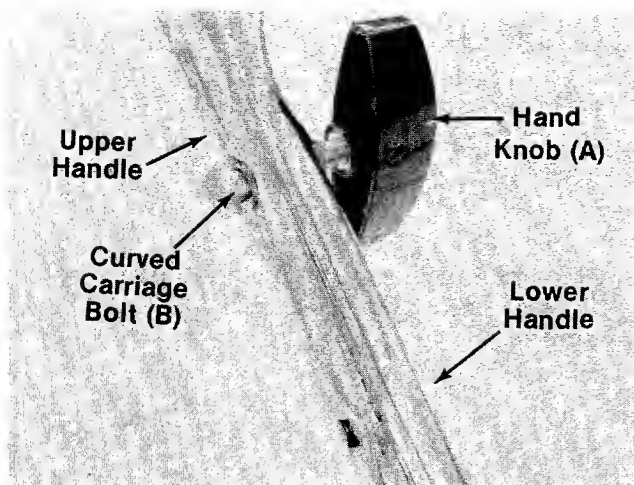

FIGURE 4.
4. Place upper handle in position over lower handle. Secure with two carriage bolts (B) and hand knobs (A) as shown in figure 4. The knobs can be either to the inside or outside of the handle.